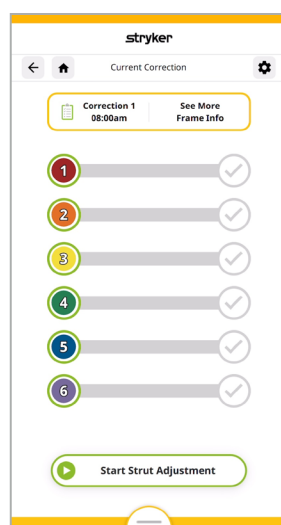

Figure 48
- When the patient is seated or lying comfortably and ready, tap the Start Strut Adjustment button toward the bottom of the screen to begin the correction. **(Figure 48)**